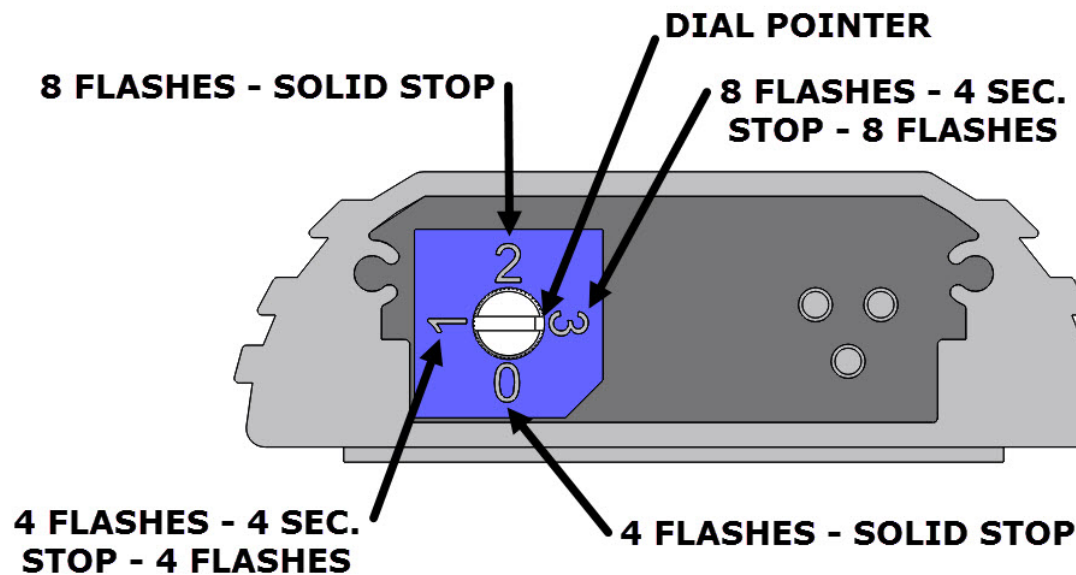

FIG. 1
11. THE MODULATOR HAS 4 SETTINGS FOR FLASH PATTERNS. SEE FIG. 1